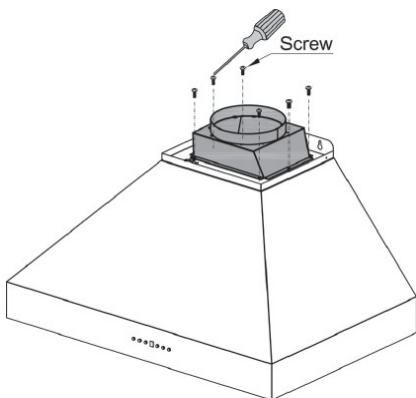

Figure 5.
7. Install the air outlet adapter over the hood with the provided screws (ϕ 6" for 30" & 10" for 36", 48" and 60"). *Figure 5.*